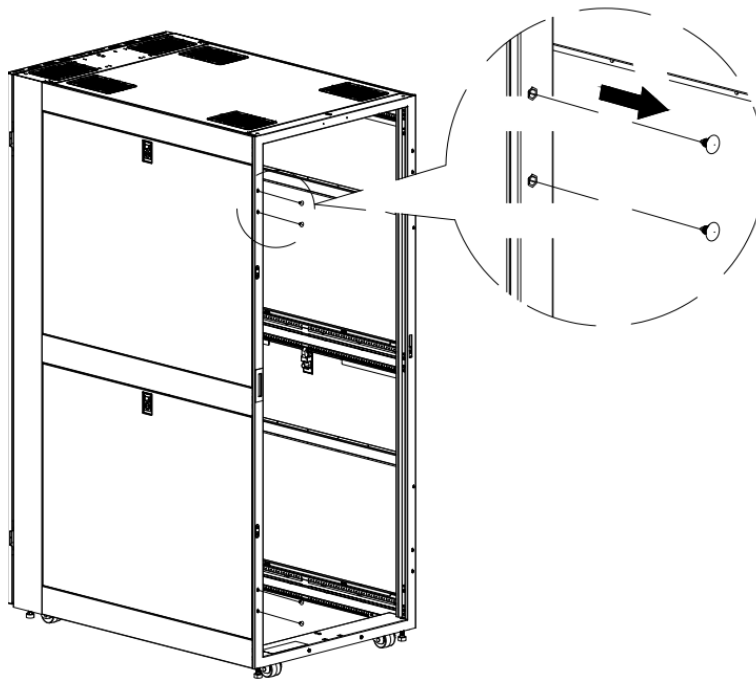

Figure 6.3.6
- Using a flathead screwdriver, carefully remove the plastic hole covers (4) on the side of the frame where the hinges are to be reinstalled. (Figure 6.3.6)